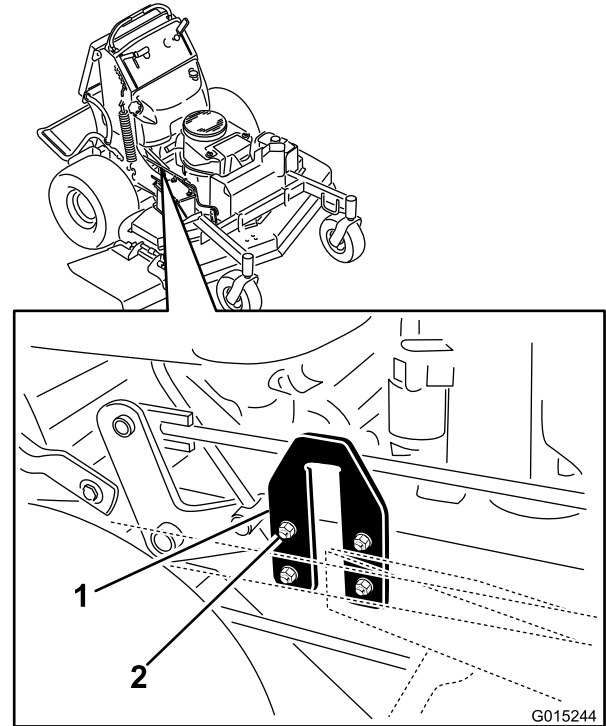

Figure 85
2. Locate the U-plates on the side of the engine deck (Figure 85).
3. Loosen the U-plate on one side and adjust it up or down to make the difference between measurements **B** and **C** no more than a 1/4 inch (6 mm) (Figure 85).